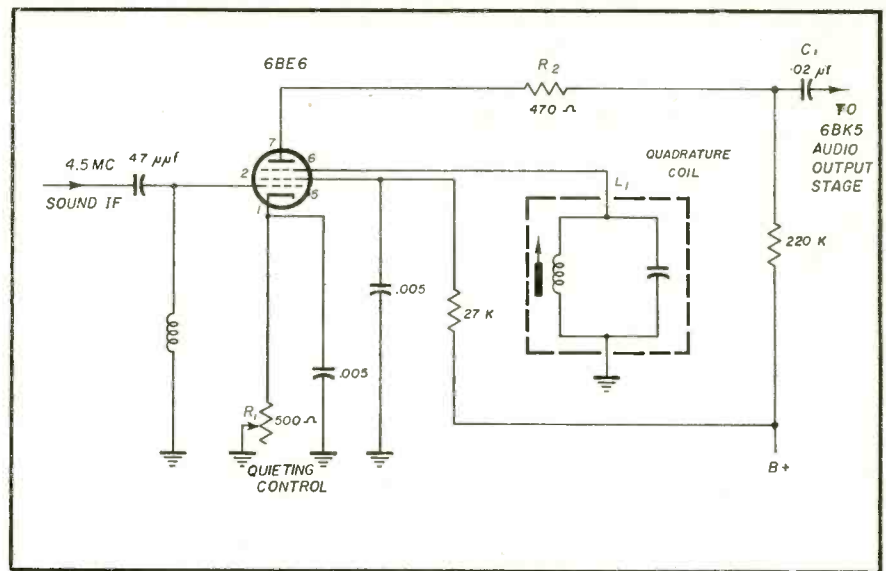

Fig. 3—Gated Beam Detector used in Westinghouse V2233-1.
1. Adjust the sound traps and sound if coils for maximum sound signal through the speaker. If any of these adjustments makes the signal much louder and the hiss disappears, readjust the signal attenuator in the antenna circuit to make the hiss appear again. See Fig. 3